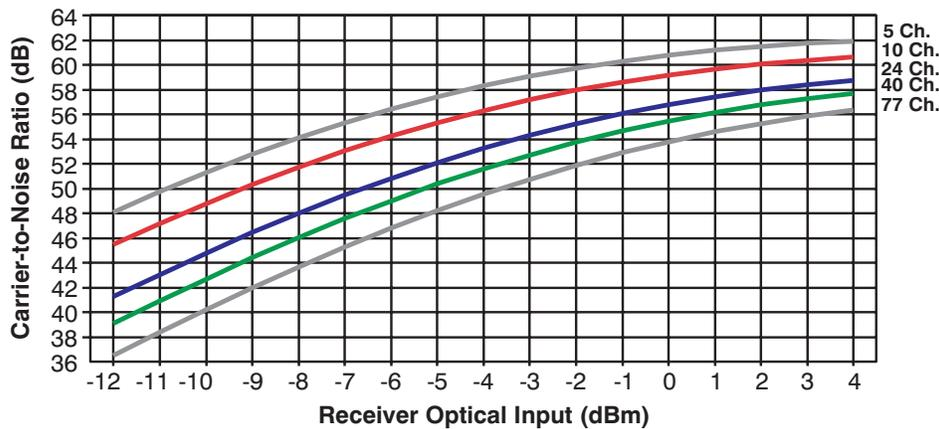

Figure 1.3 CNR vs. Receiver Optical Input at 77 Channels (2806T with 2809R)
- 3) Figure 1.3 show the CNR versus received optical input power and number of channels. The horizontal axis is the amount of optical light that reaches the receiver. (It is not the loss between the transmitter and receiver.) The vertical axis shows the CNR.